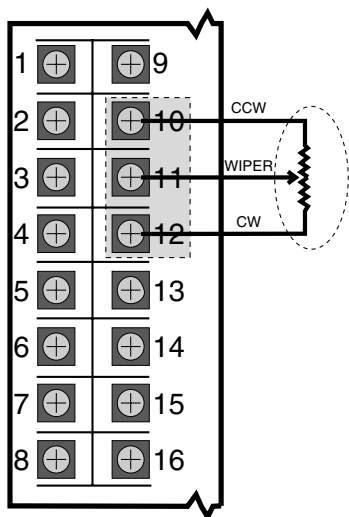

Figure A4.10
2. Attach a 100 to 1000 ohms potentiometer to terminals 10, 11 and 12 as shown in Figure A4.10.